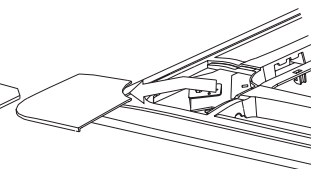

Fig.5-11
- Wrench off the bolts, loose the rope of the installation covers, and remove them. (Refer to fig.5-11)